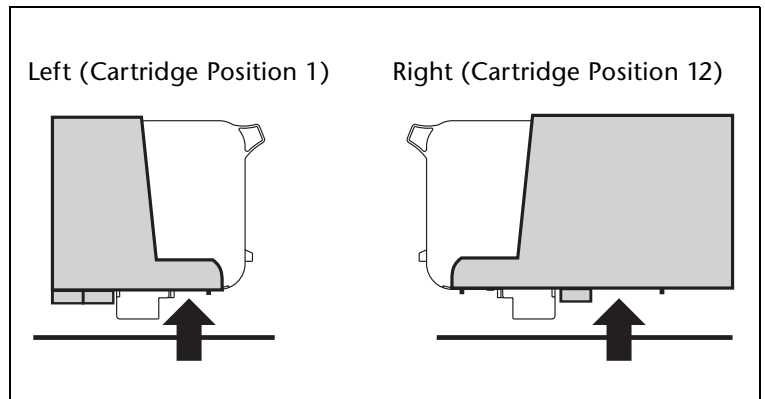

Fig. 3-8. Head height measurement points
2. Use the hex wrench to turn one of the head height adjustment screws counterclockwise until the end of the gauge will *not* fit under the carriage as shown in Fig. 3-8.